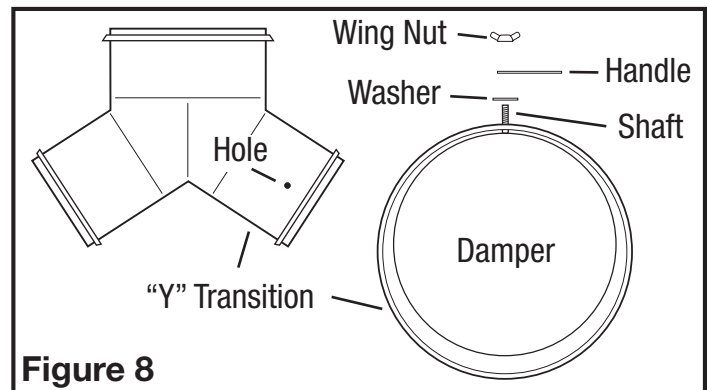

Figure 8
3. Insert the shaft of the damper into the hole drilled in step 2. Place the washer, handle, then wing nut onto the shaft (**Figure 8**).